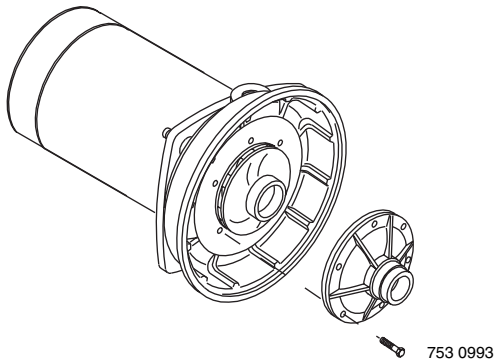

Figure 19 – Remove Diffuser
1. Remove four screws fastening diffuser to seal plate; remove diffuser (see Figure 19). Exposed impeller can now be cleaned.